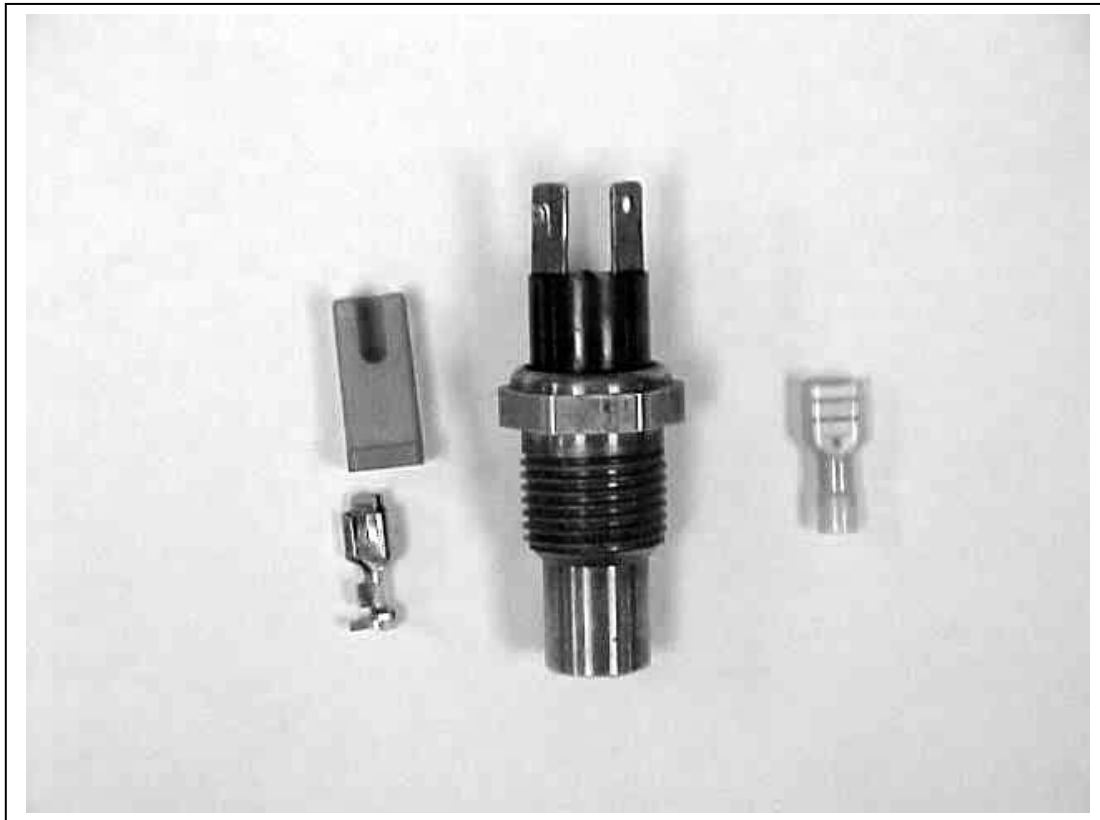

Figure 7.16 Hot and Cold Sending Unit
- 7.11.2** Take the LtGrn wire #962 and strip the wire back about a ¼ in. Crimp the silver non-insulated terminal to the wire. Then install the connector. This will plug on the terminal (G) on the sending unit. See **Figure 7.16**.